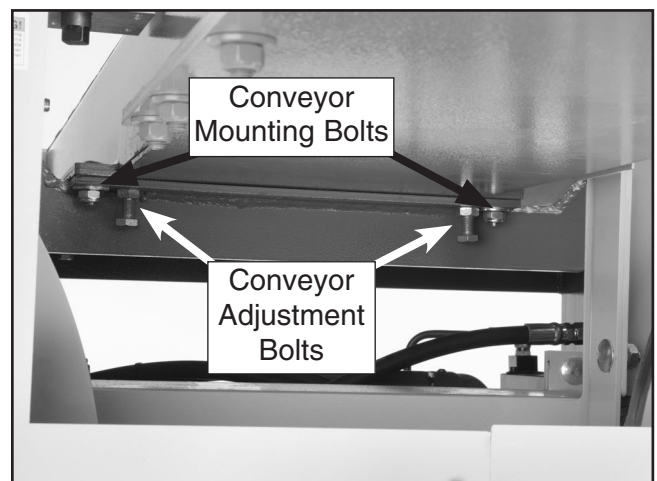

Figure 60. Conveyor table mounting and adjustment bolts.
3. Loosen all six of the conveyor mounting bolts (see **Figure 60**).